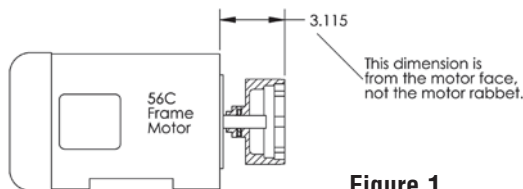

Figure 1
2. Slide drive magnet assembly (item 10) onto the motor shaft until it is between 3.110" and 3.120" as measured from the motor face to the top of the drive magnet assembly. See Figure 1. Align cone point set screw (item 10B) with key slot on the motor shaft and tighten both set screws with a 5/32" Allen wrench to 140 in-lbs. (15.8 N-m)..
If the drive magnet assembly (item 10) is to be replaced, install as follows. On a 56C motor frame, slide the drive magnet assembly (item 10) onto the motor shaft until it is between 3.110" and 3.120" as measured from the motor face to the top of the magnet assembly. See figure 1. Align cone point set screw (item 10B) with key slot on the motor shaft and tighten both set screws with a 5/32" Allen wrench to 140 in-lbs. (15.8 N-m).